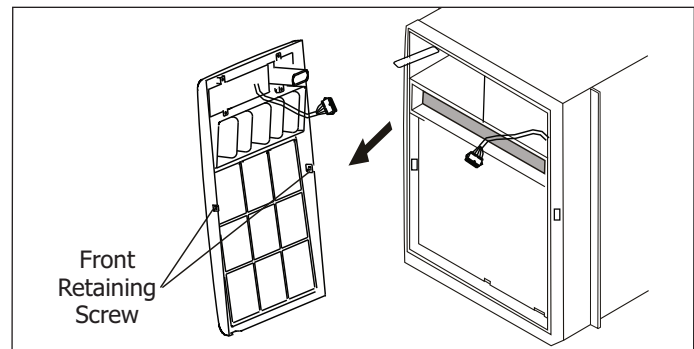

Figure 2-45.
- a. Remove the two front retaining screws from the front frame. (See Figure 2-45)